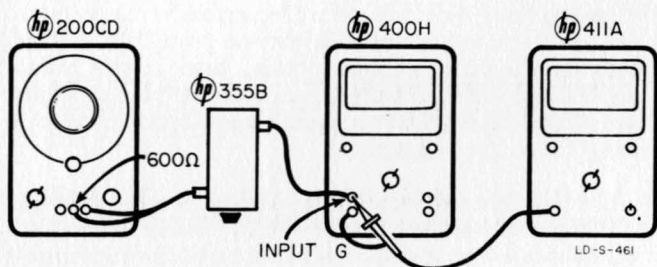

Figure 5-2. Calibration Test Setup
c. Connect the probe of the 411A across the same voltage as the ac voltmeter (see figure 5-2). Make the mechanical and electrical zero-setting just before connecting the probe (see figure 3-9).